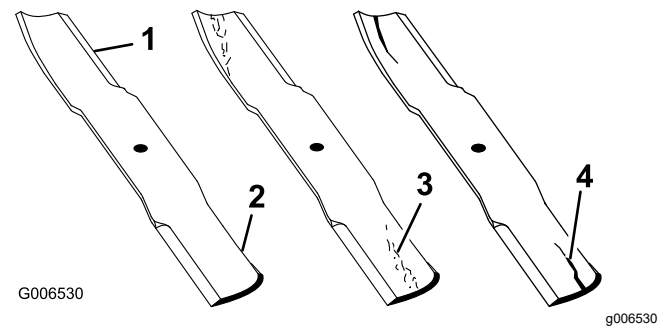

Figure 113
1. Inspect the cutting edges (Figure 113).
4. If you notice any cracks, wear, or a slot forming in this area, immediately install a new blade (Figure 113).